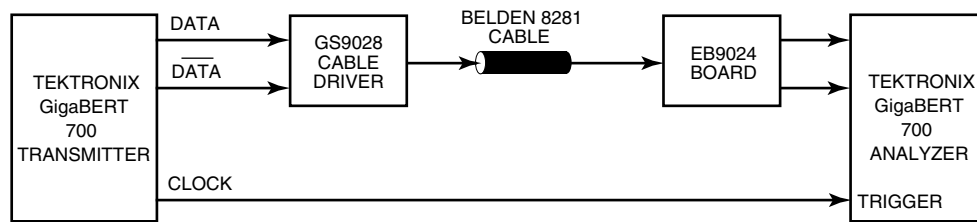

Fig. 1 Test Setup for Figure 3.
4. Evaluated using test setup Figure 1.